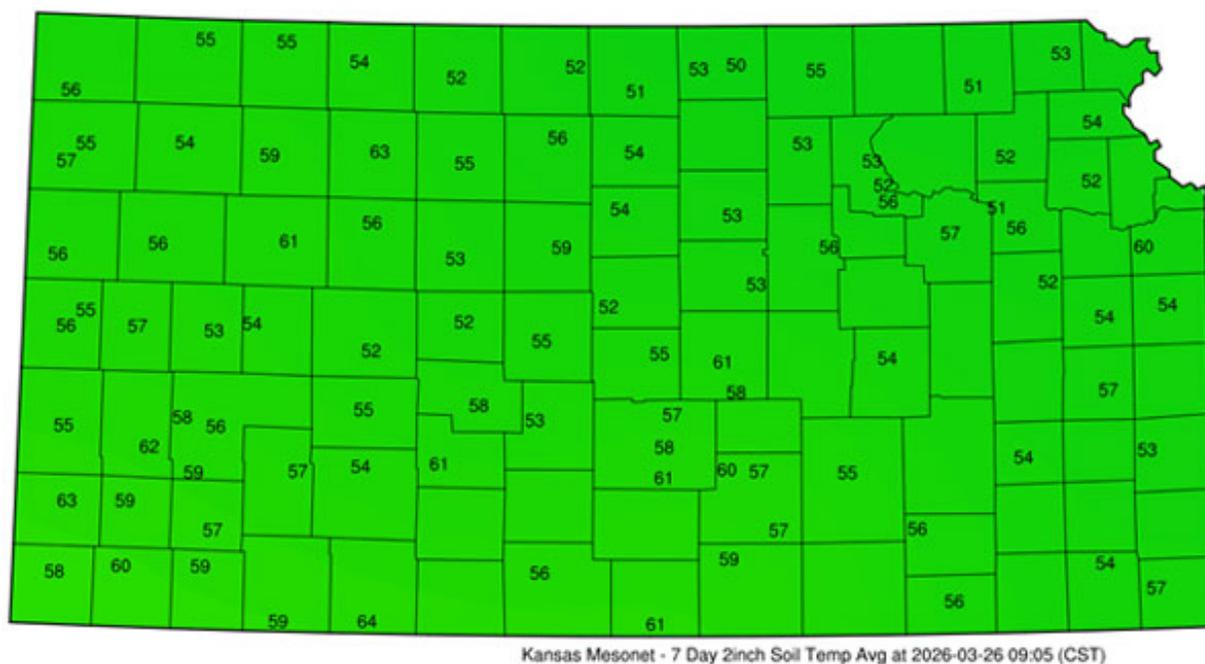

Figure 1. Average 7-day soil temperature at the 2-inch depth for the week of March 20-March 26, 2026. Map from Kansas Mesonet.
Overall, the yield response to plant population depended on the final yield environment (Figure 1). In yield environments below 100 bu/acre, yield response to plant population was slightly negative. Yield response to plant population tended to be flat when the yield environment ranged from 100 to 150 bu/acre, positive and quadratic with the yield environment improving from 150 to 180 bu/acre, and lastly, increasing almost linearly with increasing plant populations when the yield environment was more than 200 bu/acre (Figure 1).
Figure 1. Corn grain yield response to plant density in four yield environments, a) <100; b) 100-150; c) 150-180; and d) > 180-210 bu/acre (Assefa, Ciampitti et al., 2016, Crop Science). Figure created by I.A. Ciampitti, K-State Extension.
- Avoiding planting when soil temperatures are below 60°F (Figure 1). If planted into soils cooler than 60°F, seedlings may eventually emerge but will have poor vigor.